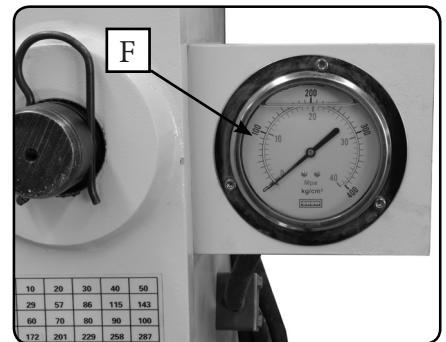

Fig. 9
- F. Pressure Gauge - Records the amount of pressure being used. (Fig. 9)